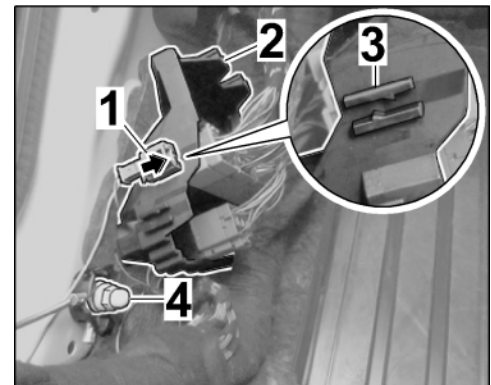

Figure 7
- 2.3.1 Push pin connector socket onto the top guide (⇒ *Figure 7 -inset-*) at the connection point holder (⇒ *Figure 7 -arrow-*).
Secure cable ring eyelet to ground pin 21 (⇒ *Figure 7*).